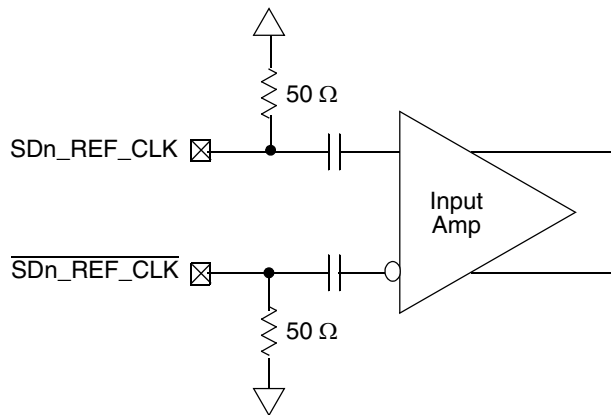

Figure 58. Receiver of SerDes Reference Clocks
Figure 58 shows a receiver reference diagram of the SerDes reference clocks.
- The $\overline{SDn\_REF\_CLK}$ and $\overline{SDn\_REF\_CLK}$ are internally AC-coupled differential inputs as shown in Figure 58. Each differential clock input ($\overline{SDn\_REF\_CLK}$ or $\overline{SDn\_REF\_CLK}$) has a 50- Ω termination to SGND (xcovss) followed by on-chip AC-coupling.